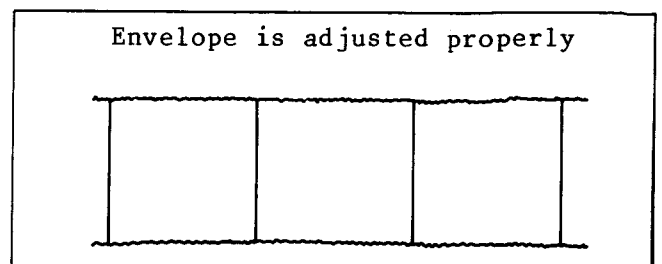

Fig. M30-4 Envelope Figure
- When the scope display is as follows, adjust the height of P2 so that the waveform looks like Fig. M30-4.
- When the scope display is as follows, adjust the height of P3 so that the waveform looks like Fig. M30-4.